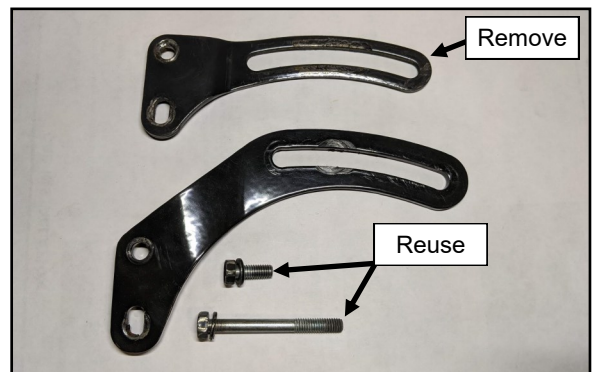

Fig. 2.2a (Replace Tensioner Bracket)
- 2.2 See figures 2.2a and 2.2b. Use a 10mm wrench to remove the OEM dynamo tensioner bracket and discard. Reuse the hardware and install the supplied larger bracket. Do not fully tighten the bolts at this time.